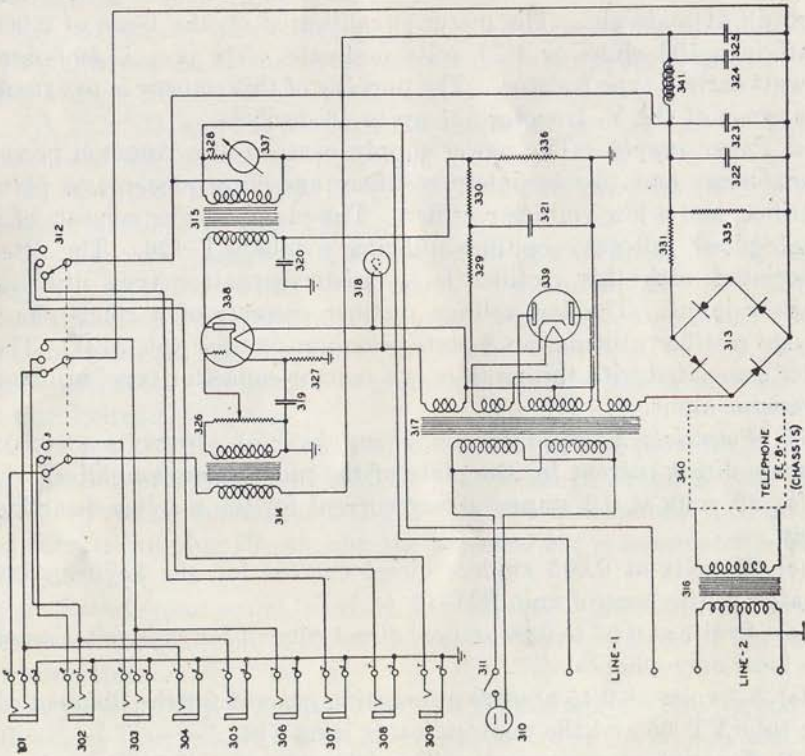

FIGURE 21.—Schematic diagram of control unit RM-13-( ).
**38. Control unit RM-13-( ).**—This unit provides for the following functions (see fig. 21):